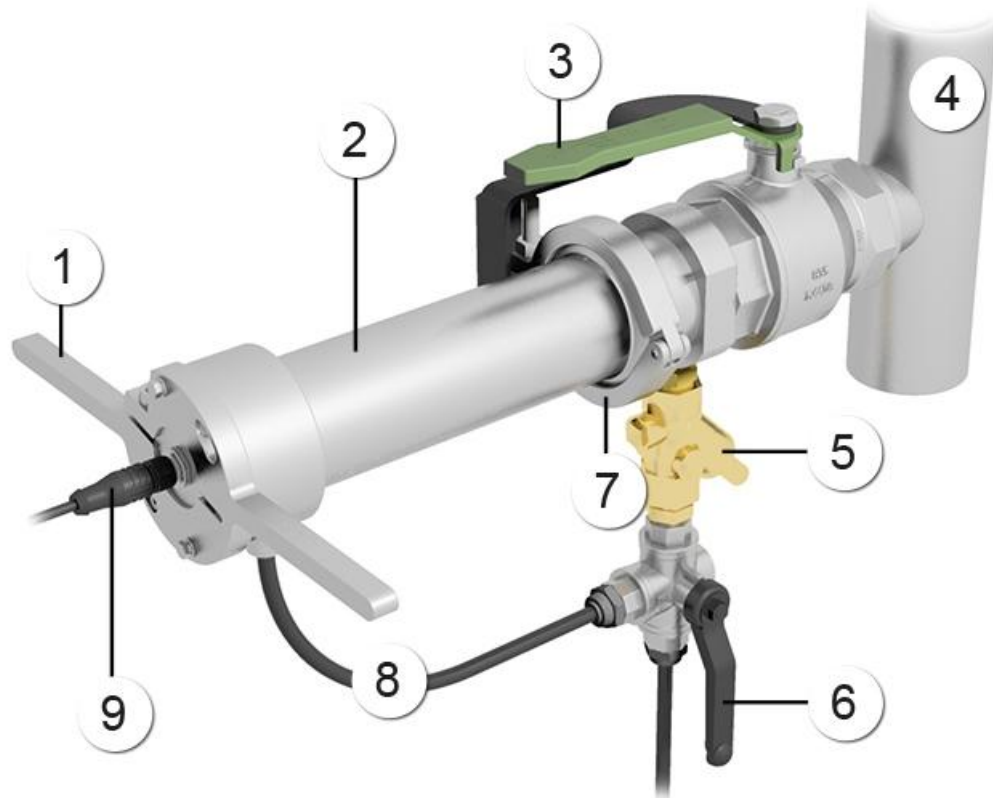

Figure 34: Overview of a measuring point with extractable assembly
1.	Ensure that the handle of the changeover valve (Figure 34, pos. 6) is pointing downwards.
3.	Rotate the handle (Figure 34, pos. 1) counter-clockwise up to the stop (arrow).
4.	<p>⚠ Danger due to extending pistons. Do not stand in front of the extractable assembly. Otherwise, injuries can occur.</p> <p>Stand to the right of the extractable assembly and rotate the changeover valve (Figure 34, pos. 6) counter-clockwise so it points to the right (arrow).</p>
6.	Close the shut-off valve (Figure 34, pos. 3) (arrow).
7.	Remove the junction hose (Figure 34, pos. 8) from the coupling on the changeover valve. The junction hose can be removed by applying pressure to the sleeve (arrow) on the hose coupling.
8.	Loosen the Tri-Clamp (Figure 34, pos. 7) and pull out the probe (arrow).
9.	<p>Carry out the servicing duties on the AquaScat S.</p> <p>Clean the AquaScat S according to the Instruction Manual or carry out a recalibration.</p> <p>Proceed as follows to replace the desiccant:</p> <ol style="list-style-type: none"> 1. Note down which marking (I, II, III) on the handle is aligned to the marking on the probe (blue arrow). 2. Remove the handle by loosening the screw (X). 3. Pull out the cover and replace the desiccant (Y) (bottom figure). 4. Reattach the cover immediately. 5. Align the marking I, II or III to the blue arrow on the probe according to your notes, then tighten the screw (X).
11.	Fasten the Tri-Clamp (Figure 34, pos. 7) (arrow). i The Tri-Clamp must be aligned to the positioning plate (X).
12.	Insert the junction hose (Figure 34, pos. 8) into the coupling (arrow).
13.	Rotate the changeover valve (Figure 34, pos. 6) so it points downwards (arrow).
14.	Open the shut-off valve (Figure 34, pos. 3) (arrow).
15.	Push the AquaScat S into the measuring position using the handle (Figure 34, pos. 1) up to the stop. The bores in the handle must be aligned to the screws (arrows).
16.	Rotate the handle (Figure 34, pos. 1) clockwise up to the stop (arrow).